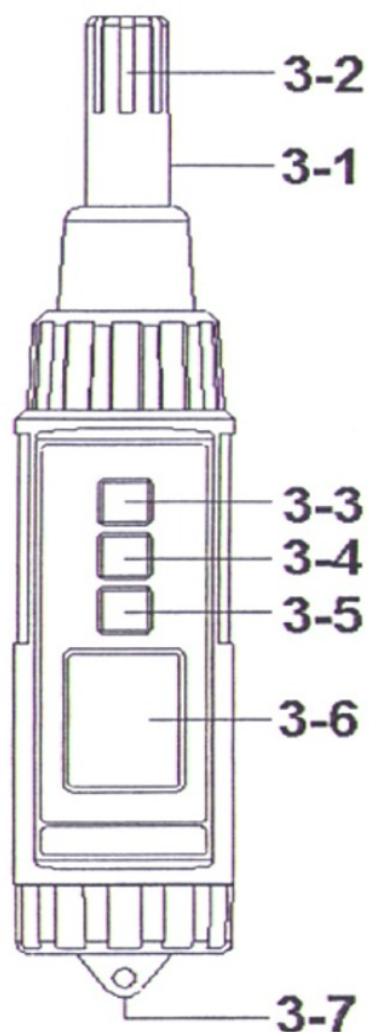

Fig. 1
1) Turn on the meter by pressing the " Power Button " (3-3, Fig. 1) momentarily.
** Pressing the " Power Button " (3-3, Fig. 1) momentarily again will turn off the meter.*
Pressing the " Mode Button " (3-5, Fig. 1) continuously (not release the button), the Display will show the following 4 kind screens in sequence :
Until the Display show the desired model (Function), just release the " Mode Button " (3-5, Fig. 1), the meter will execute this function with default.
- 2) Turn on the meter by pressing the " Power Button " (3-3, Fig. 1) momentarily.
- 3) Under the Barometer mode, pressing the " Unit Button " (3-4, Fig. 1) continuously (not release the button), the upper Display will show the following indicator in sequence :
Until the Display show the desired unit, just release the " Unit Button " (3-4, Fig. 1), the meter will execute this measuring unit with default.
- 2) Use one finger to press (not release) the " Hold Button " (3-4, Fig. 1), turn on the meter by pressing the " Power Button " (3-3, Fig. 1) momentarily, until the temperature unit (°C, °F) of Display is lit, then release the " Hold Button " will change the Temp. unit from °C to °F or °F to °C with default.
- 1) Turn on the meter by pressing the " Power Button " (3-3, Fig. 1) momentarily.
- * During the measurement, press the " Hold Button " (3-4, Fig. 1) momentarily to hold the measured value. The LCD will show a " HOLD " symbol.
- 1) The data record function records the maximum and minimum readings. Press the " REC Button " (3-5, Fig. 1) momentarily to start the Data Record function, shows " REC " on the display.
- a) Press the " REC Button " (3-5, Fig. 1) momentarily, the " REC MAX " symbol along with the maximum value will appear on the display.
- b) Press the " REC Button " (3-5, Fig. 1) momentarily again, the " REC MIN " symbol along with the minimum value will appear on the display.
** When display shows " REC MAX " or " REC MIN ", press the " Hold Button " (3-4, Fig. 1) momentarily will delete the max. (min.) value, the display will show the " REC. " only and execute the memory function continuously.*
- 2) To de-activate this feature, Select the memory record function during measurement, by pressing the " REC Button " (3-5, Fig. 1).
- * To change the batteries, open (rotate clockwise direction) the " Battery Cover " (3-7, Fig. 1).
- * Make sure the " Battery cover " (3-7, Fig 1) is secured after changing the batteries.